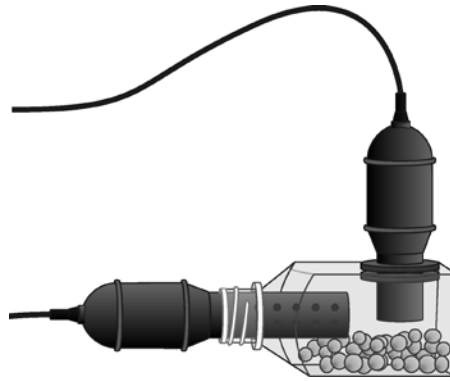

Figure 1
5. Place the O₂ Gas Sensor into the BioChamber 250 as shown in Figure 1. Insert the sensor snugly into the grommet. The O₂ Gas Sensor should remain vertical throughout the experiment. Place the CO₂ Gas Sensor into the neck of the respiration chamber as shown in Figure 1.